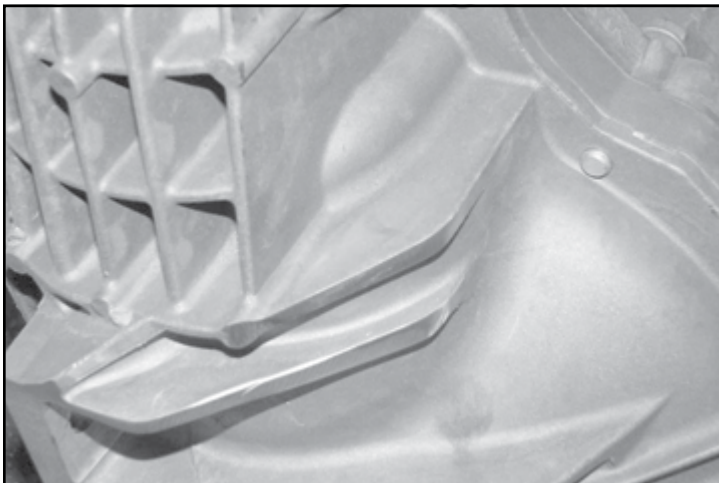

**FIGURE 11**
14. Remove the factory studs from the differential mount and discard. **SEE FIGURE 11**